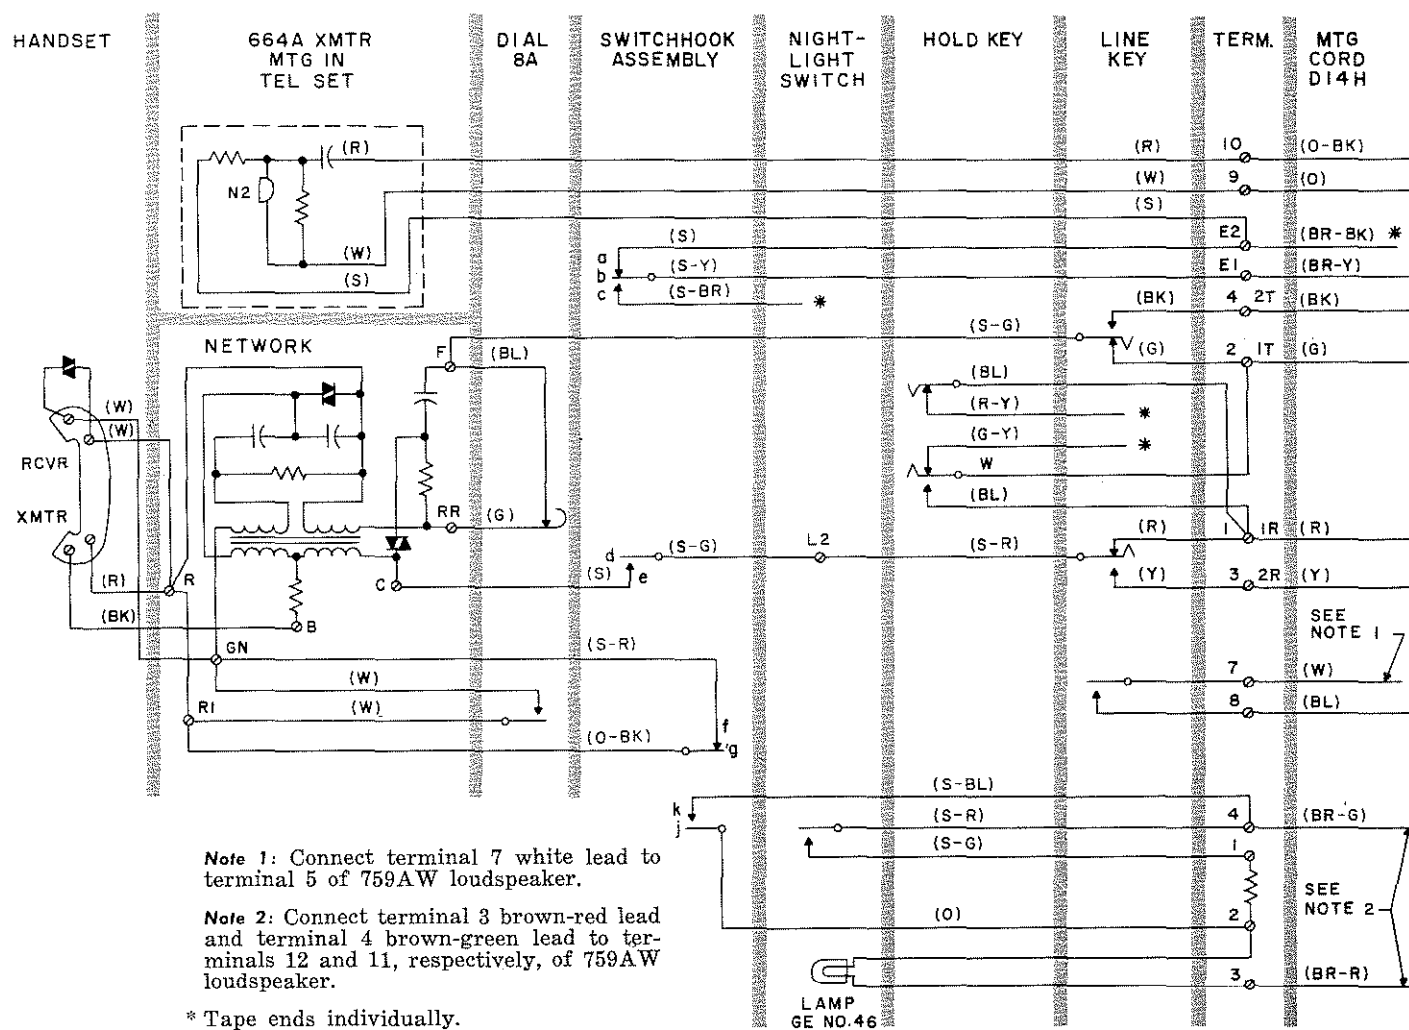

Fig. 14 — 711BW Telephone Set Connections to 1A Home Interphone
9.03 Individual station troubles may be corrected by using the connection information or schematic drawings (Fig. 14 and 15).